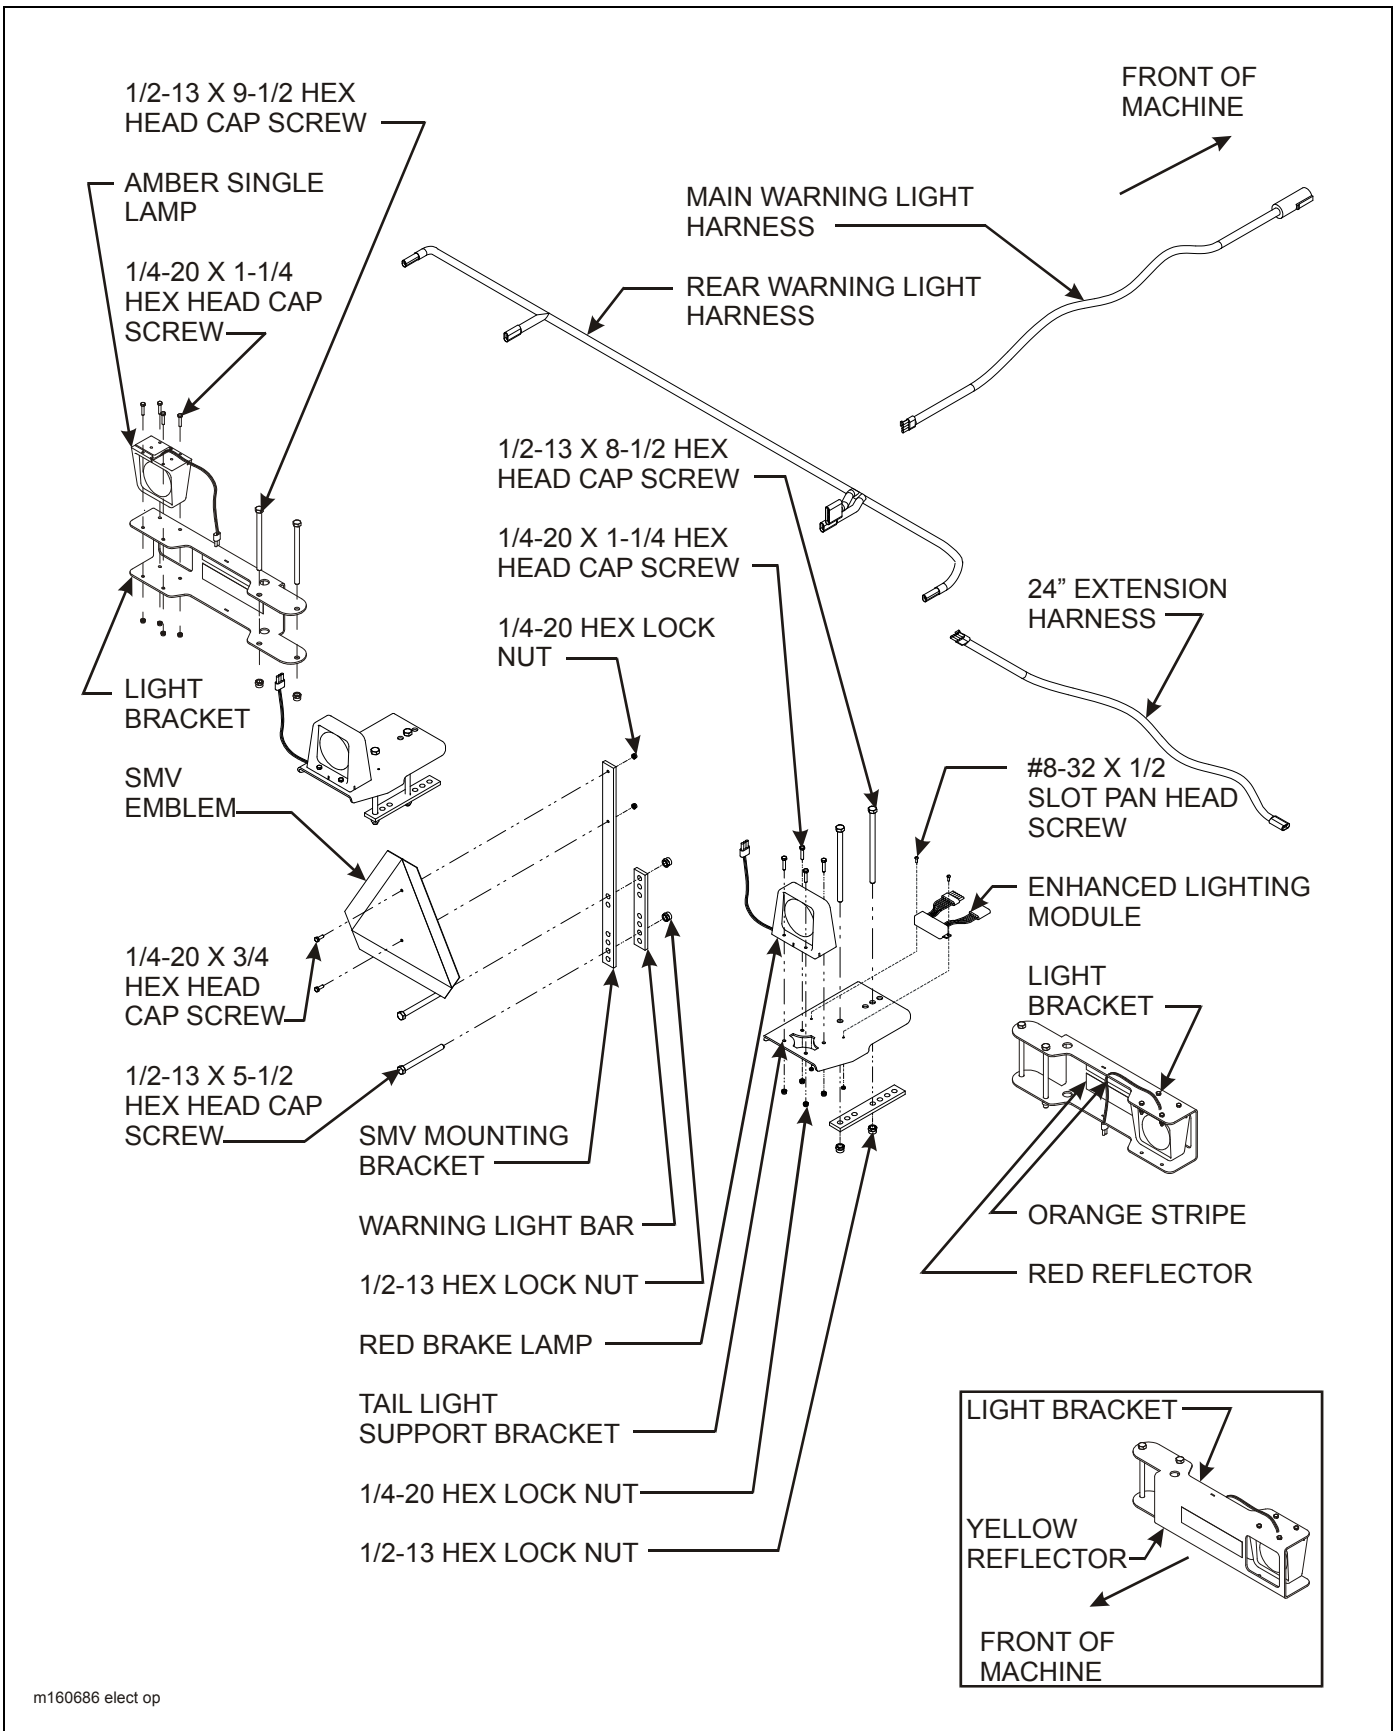

Figure 3-24: Light and SMV Bracket Installation (Prior to August, 2013)
1. Attach inner tail light mounting bracket supports to the center frames using 1/2-13 x 8-1/2 hex head cap screws, warning light bars, and hex lock nuts **(See Figure 3-24.)**
1. Attach inner tail light mounting bracket supports to the center frames using u-bolts and hex lock nuts **(See Figure 3-24.)**